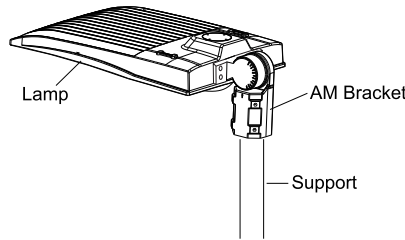

Figure 12
- Step 2: Place the bracket into the pole and lock the four bolts. (Figure 12)